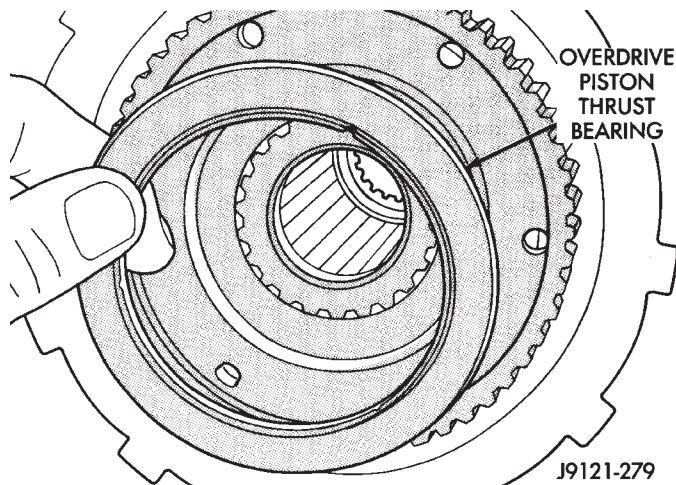

Fig. 7 Removing/Installing Overdrive Piston Thrust Bearing
- (9) Remove overdrive piston thrust bearing (Fig. 7).
- (10) Mount transmission unit on Repair Stand C-3750-B, or support transmission with wood blocks.